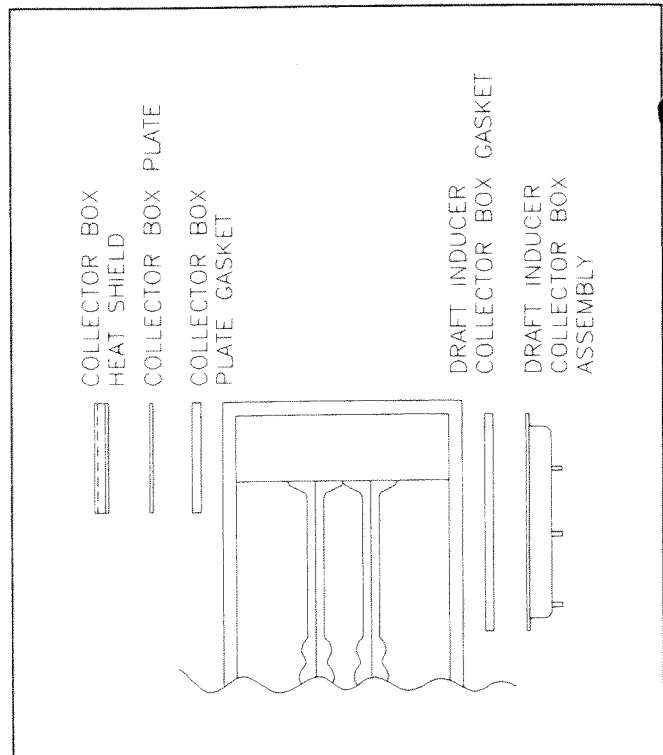

Figure 26. Collector Box Components.
1. Remove draft inducer collector box and screws from outlet furnace front. See Figure 26. Save screws for reinstallation.
2. Remove heat exchanger collector box heat shield, cover plate and fiberglass gasket located on rear of furnace. Install them on front. See Figure 26. Take care to align gasket.